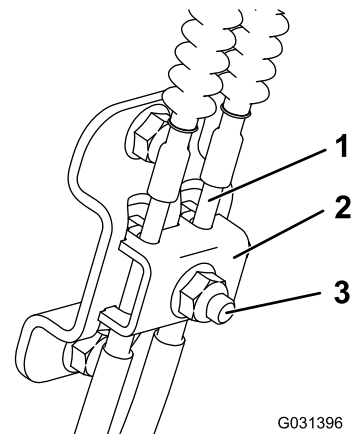

**Figure 49**
3. Remove the air-intake screen, recoil starter, and fan housing (Figure 49).
5. Install the air-intake screen, recoil starter, and fan housing (Figure 49).